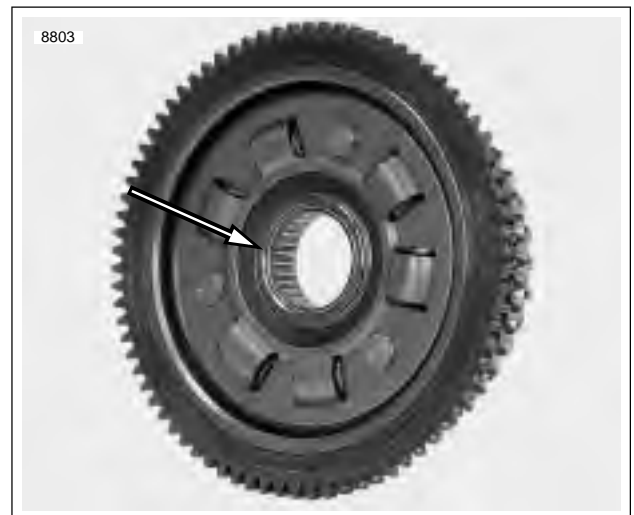

Figure 6-27. New Needle Bearing in Clutch Shell
9. See Figure 6-27. Inspect clutch shell needle bearing for smoothness. Rotate the clutch shell while holding the clutch hub. If bearing is rough or binds, it must be replaced. See CLUTCH SHELL BEARING REPLACEMENT.